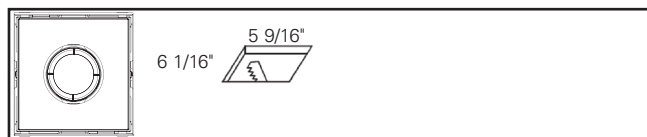

Figure 1.9.
- 1 Light: 5 9/16" X 6 1/16" (Figure 1.9)
- 2a. Refer to figures 1.9, 1.10, 1.11, 1.12 respectively for applicable ceiling cut-out dimensions for the multi-head being installed.